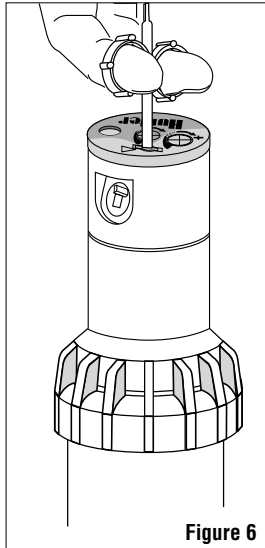

Figure 6
1. Insert the plastic key end of the Hunter wrench into the lifting socket of the sprinkler and turn 90 degrees. Pull the riser up to gain access the nozzle socket (Fig 6).